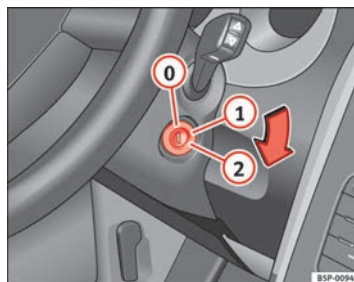

Fig. 137 Ignition key positions
In this position ⇒ fig. 137 the ignition and the engine are OFF and the steering may get locked.
- Turn the ignition key to position ⇒ fig. 137 ①. The indicator lamp will light for engine pre-heating.
- When the warning lamp turns off, turn the key to position ② to start the engine. Do not press the accelerator.
- Turn the ignition key to position ⇒ fig. 137 .